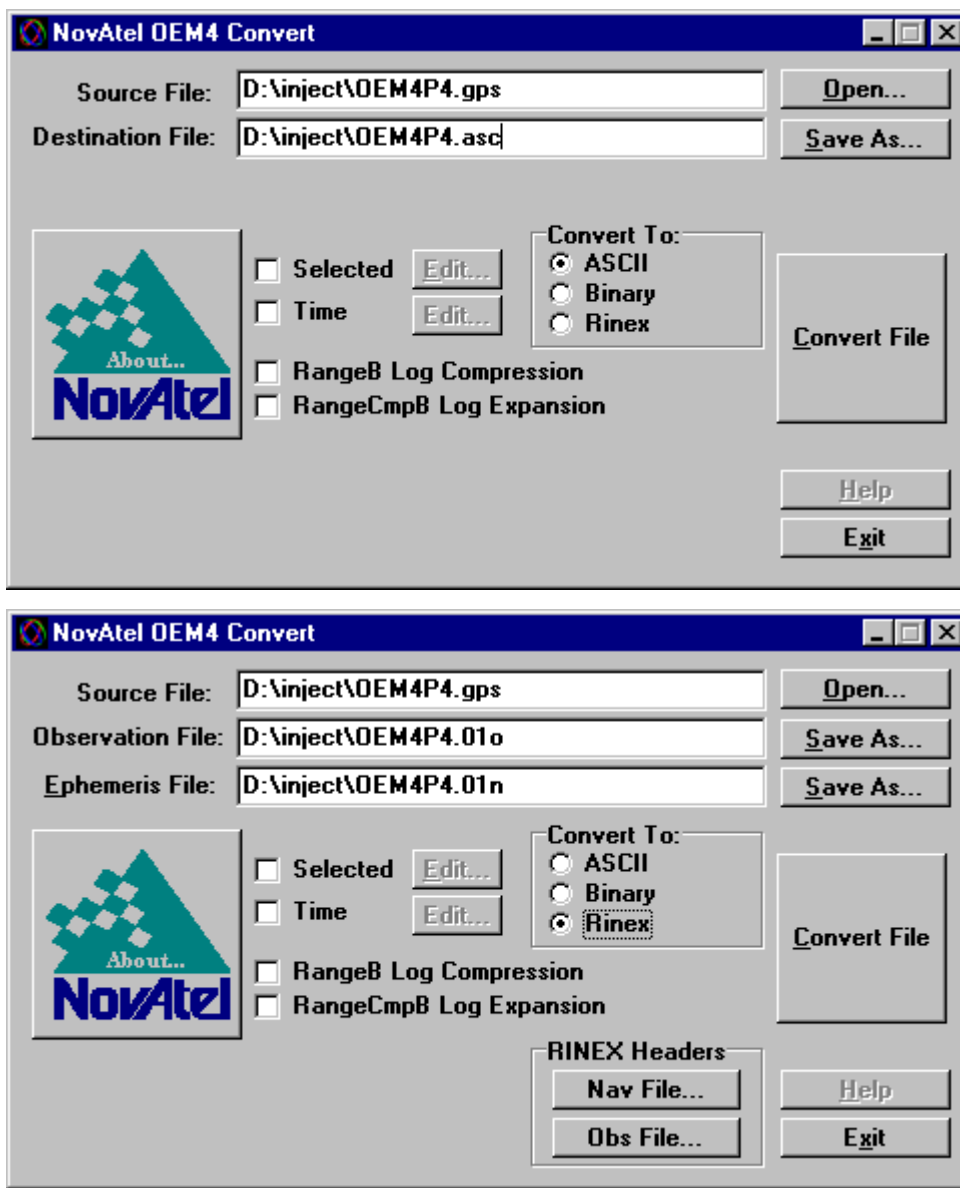

Figure 25: Convert Screen Examples
Convert is a 32-bit Windows application and is shown in *Figure 25*. Convert will accept GPS file formats and convert them to ASCII, Binary or Rinex format. The application also allows the user to screen out particular logs by selecting the desired logs from the list of available logs. This feature is useful for screening particular logs out of large data files in either ASCII or Binary formats.
Selecting the RINEX field, see *Figure 25, Convert Screen Examples on Page 92*, in the Convert To section causes the:
- a. Information from this log overrides data entered into the Receiver Number and Receiver Version fields using the OBS file button of the RINEX Headers section, see *Figure 25 on Page 92*